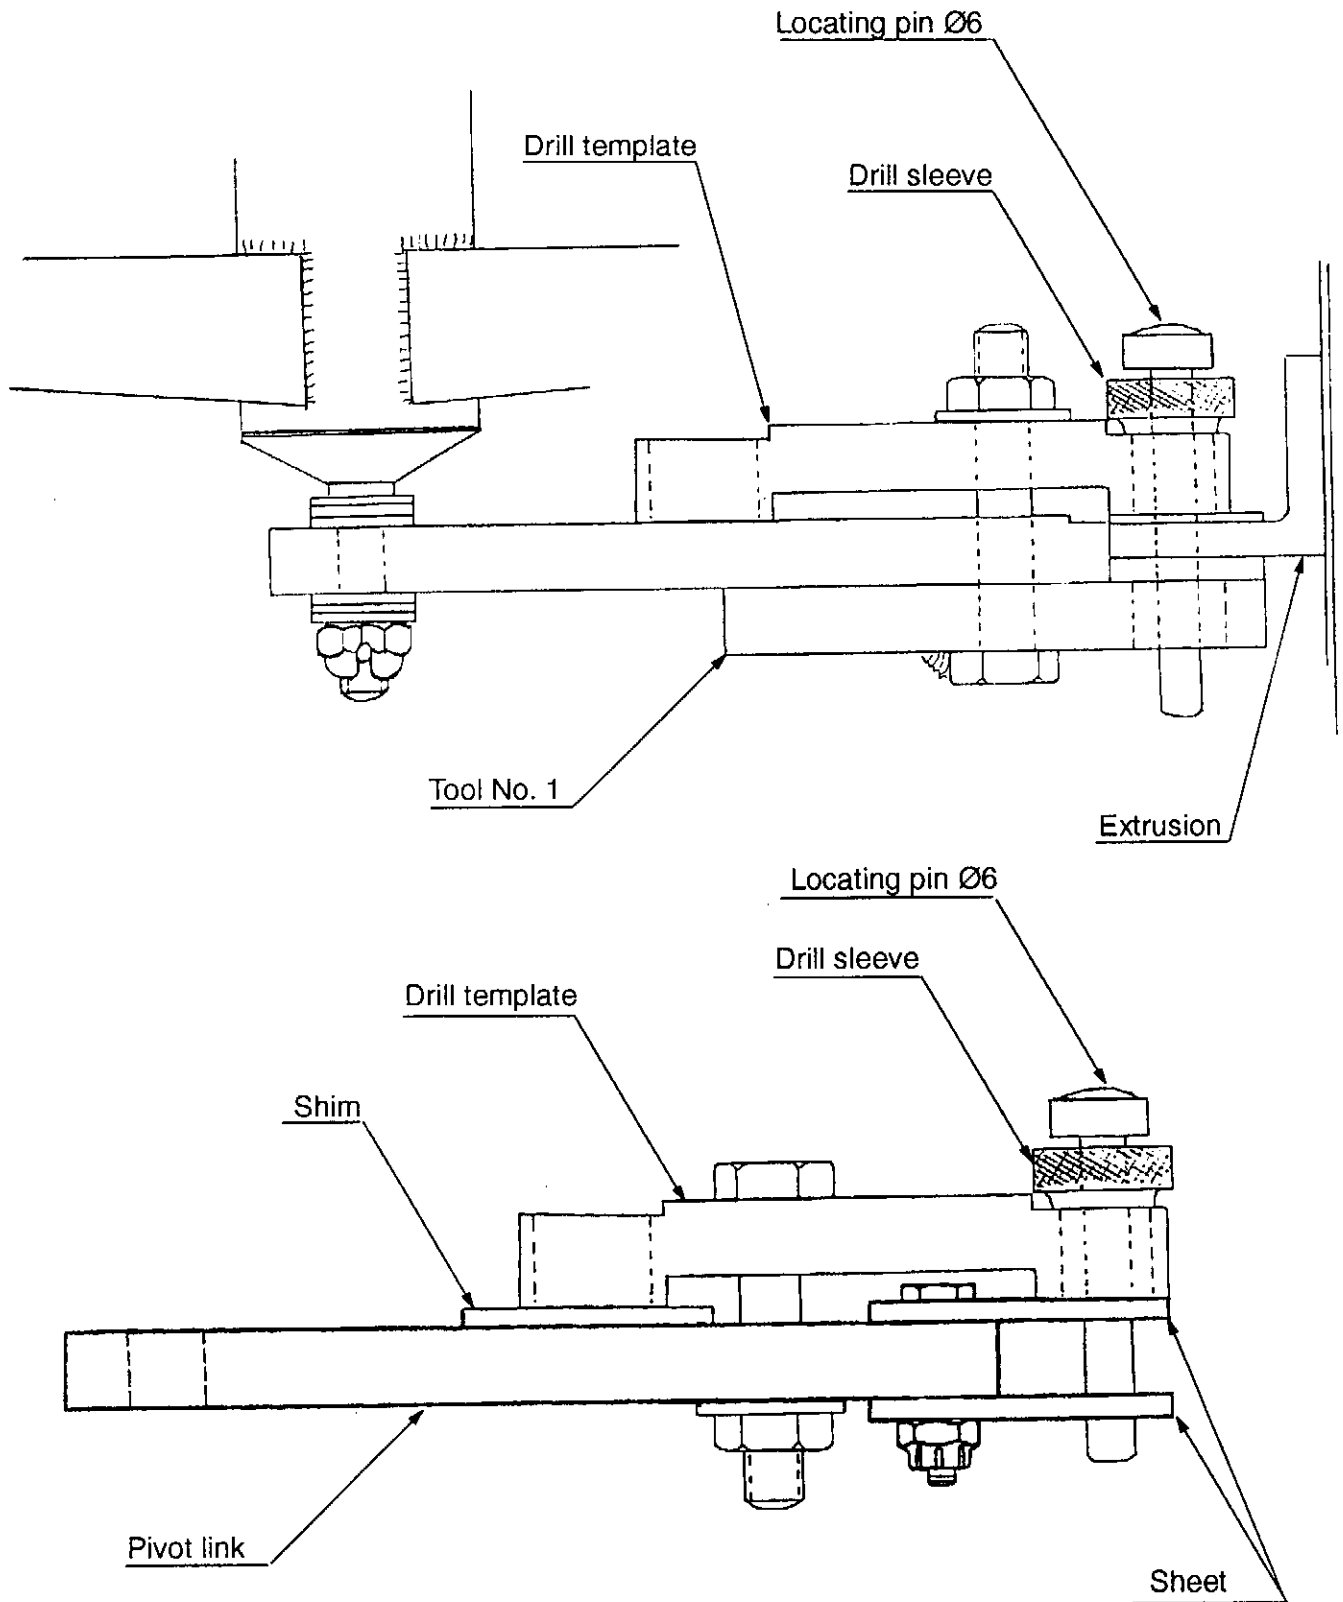

Figure 3
- 1 Install drill template, shim, drill sleeve  $\text{Ø}6$  and locating pin to the hole  $\text{Ø}6$  in the sheets on the pivot link. See figure 3.
Install the drill template over hole  $\text{Ø}6$  in extrusion and install the locating pin  $\text{Ø}6$  according to figure 3.